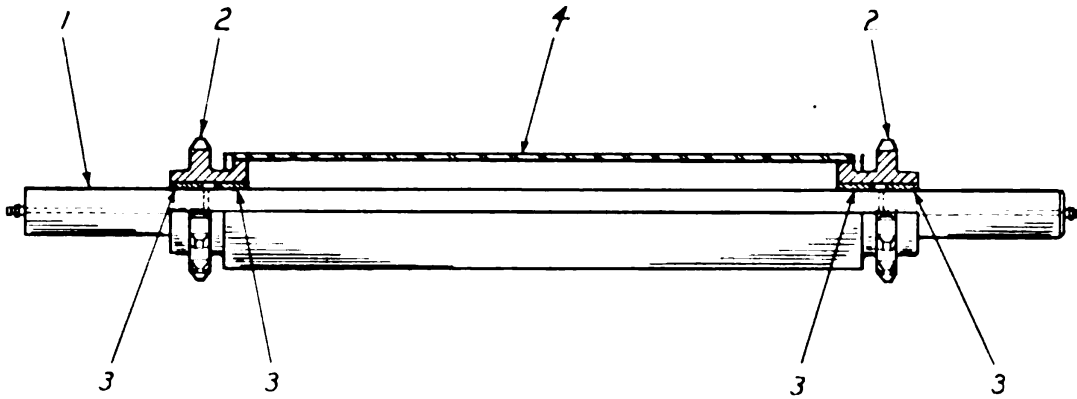

Figure 121. Conveyor foot shaft.
- (d) Pull uprun side of belt out of conveyor frame laying it over the spirals. This will expose tail pulley (4), Figure 121.
- (f) Pull out foot shaft (1) either side of machine through holes in scraper provided for this purpose.
- (h) Sprockets (2) may be pulled out of pulley (4).